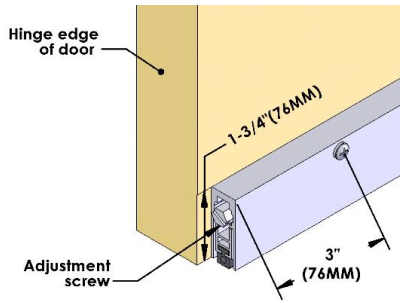

Fig. 1
4. Position the unit flush with the bottom edge of the door and the end with the adjustment screw flush against the frame stop on the hinge edge of the door. Mark, drill pilot holes and install mounting screws. (See fig. 1)